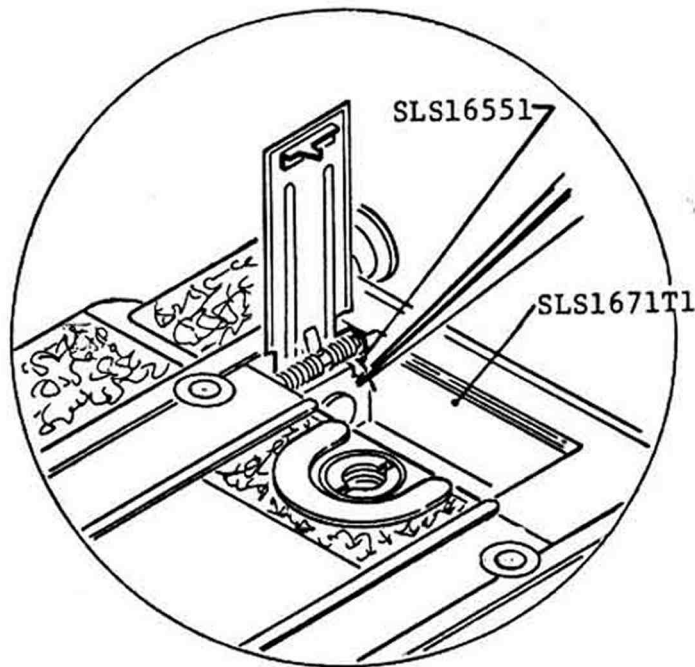

Fig. 10
**Note :** Before tightening its screws, hook end of the spring to inside of the battery chamber as shown in Fig. 10.